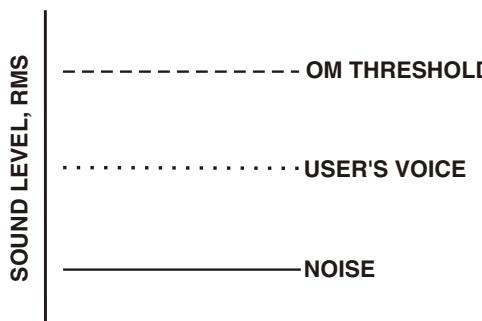
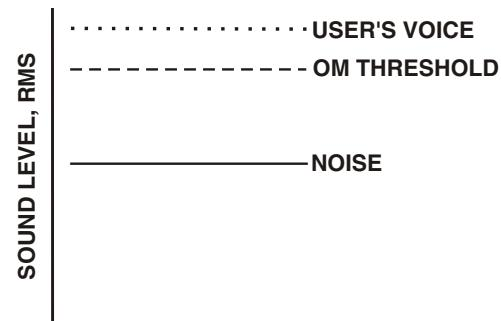

Figure 33
Figure 34
The microphone gain controls on the base station and beltpack are set to mid-levels by the factory. In most cases this setting will work fine and only on loud speech will the overmodulation (OM) indicator light. However, in environments where the background noise is loud or the user has a strong/quiet voice, the gain control will need to be adjusted. In Figure 33 the gain is set correctly. The user's root-mean-square (RMS) sound level is well below the OM threshold and only on peaks does his or her voice flash the OM indicator light.
Figure 34 displays the same gain setting as in Figure 33 but brought into a high noise environment. The user's voice now lights the OM indicator all the time he or she speaks due to the higher noise plus the user speaking louder. The result on the system is distortion on louder speech. The microphone gain must be reduced. The same applies to a user with a powerful voice. If someone sets the system mic gain to their voice and user has a much stronger voice, then the gain will need to be reduced, even if the background noise is the same.